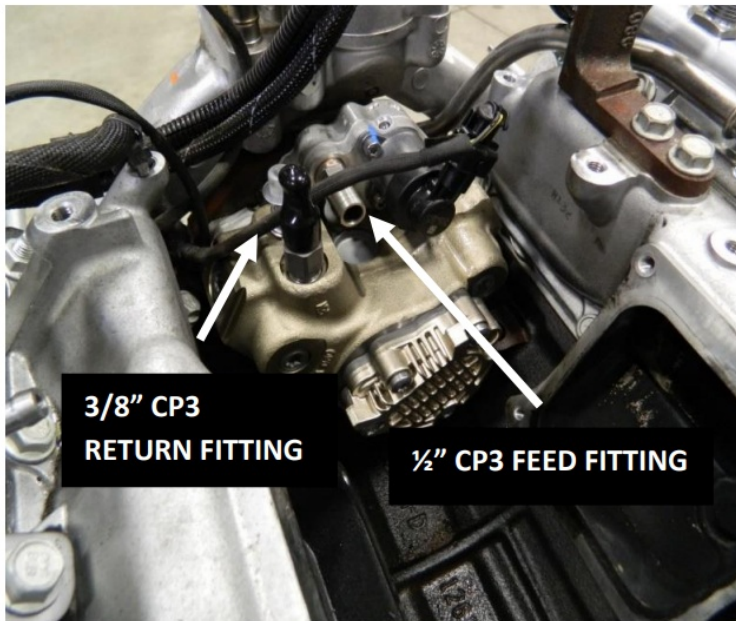

Fig. 11: Install the CP3 feed and return fittings
7. Remove the original Bosch CP3 feed and return fittings from the pump and install the new high flow CP3 feed and return fittings onto the CP3 pump. See Fig. 11.